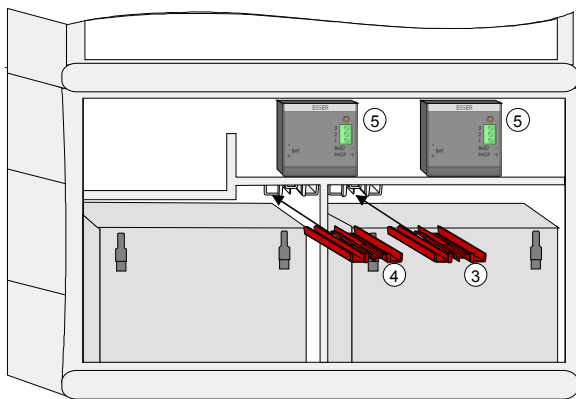

Fig. 26: Mounting in the housing of the FACP IQ8Control M or in the extension housing
- Install the additional battery mount ③ and ④.
- Install the battery monitor module ⑤ according to Fig. 26.